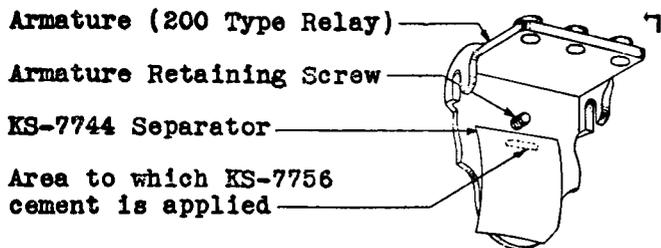
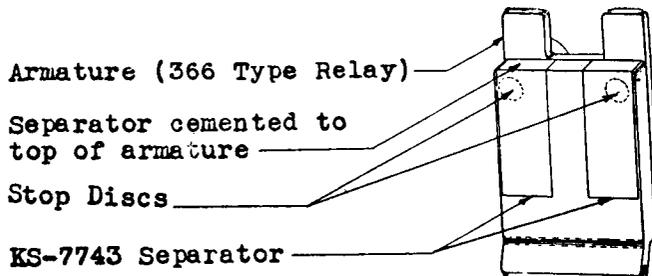

Fig. 8—Method of Applying KS-7744 Separator
Fig. 9—Location of KS-7743 Separator on 366-type Relay Armature
(1) Remove the armature as outlined in 3.01.
(2) Application of Separator Between Armature and Core:
Withdraw a strip of KS-7744 separator paper from the container and cut off a 1/2" piece. Place this separator on a flat surface and with the pointed end of a clean toothpick, which has been dipped approximately 1/8" into KS-7756 cement, distribute a small amount of the cement over an area approximately 1/32" by 3/8" across the 1/2" width near one end. Apply the separator to the inner surface of the armature so that the cemented portion is nearest the armature retaining screw and so that the separator extends from the armature retaining screw to the bottom of the armature as shown in Fig. 8. Press down the separator so that it adheres smoothly and tightly to the armature. The corners of the separator which extend beyond the armature may be cut off if desired. Then proceed as outlined in (4) and (5) unless a separator is to be applied to the heelpiece in which case proceed as outlined in (3).
(1) Withdraw a strip of separator KS-7743 from the container and cut off two pieces 15/16" long. Fold over one end of the paper 3/16" long to form a right angle. Insert one of these separators between the armature and core so that the short offset portion extends toward the front of the relay and the long portion covers one of the stop discs as indicated in Fig. 9. The 6" tweezers may be used to facilitate inserting this separator between the armature and core. Apply a small amount of KS-7756 cement to the short end of the separator, using a clean toothpick, and hold the short end of the separator firmly against the top surface of the armature until it adheres. Repeat the above procedures applying the other separator over the other stop disc.
(2) After the separators have been applied, check that the relay meets the electrical and mechanical requirements and readjust if necessary.
13. To add Fig. 8 and Fig. 9.
14. To add information covering paper separators [1.10 (b) (d), 2.05(c), 3.01(4) and (5), and 3.05(3)].